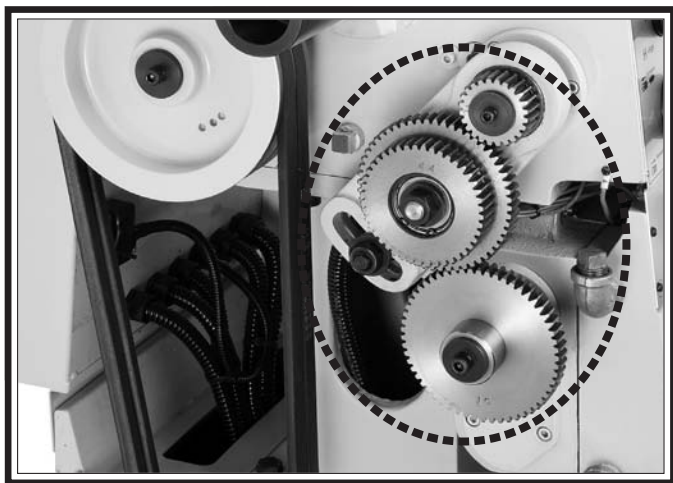

Figure 110. End gears.
The end gears, shown in **Figure 110**, should always have a thin coat of heavy grease to minimize corrosion, noise, and wear. Wipe away excess grease that could be thrown onto the V-belts and reduce optimal power transmission from the motor.
2. Remove the end gear cover and all the end gears shown in **Figure 110**.